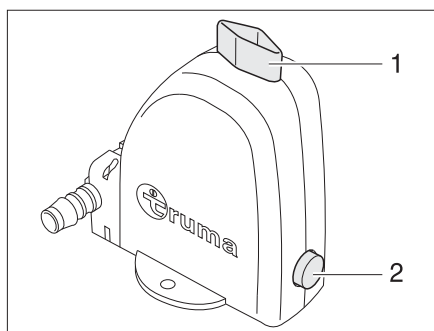

Fig. 107 Safety/drainage valve of the boiler
The boiler is equipped with a safety/drainage valve (Fig. 107). The safety/drainage valve prevents water in the boiler from freezing, when there is frost and the heater is not switched on. The safety/drainage valve is installed near the heating.
- Close the safety/drainage valve. To do so turn the knob (Fig. 107,1) crosswise to the safety/drainage valve and press in the push button (Fig. 107,2).
- Open the safety/drainage valve. To do so turn the knob (Fig. 107,1) parallel to the safety/drainage valve. The push button (Fig. 107,2) trips. The boiler is drained to the outside by the safety/drainage valve.